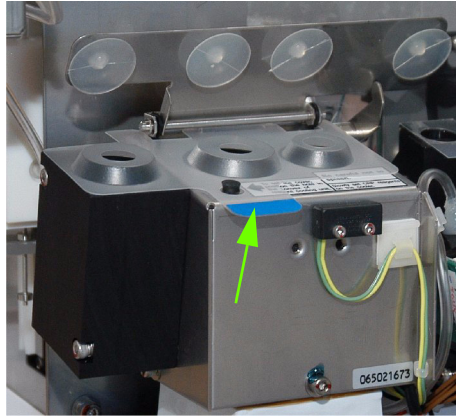

Fig.16: CRP protection
- ◆ Remove and clean the CRP protection, then put it back (See “Fig.16: CRP protection, page 11”).